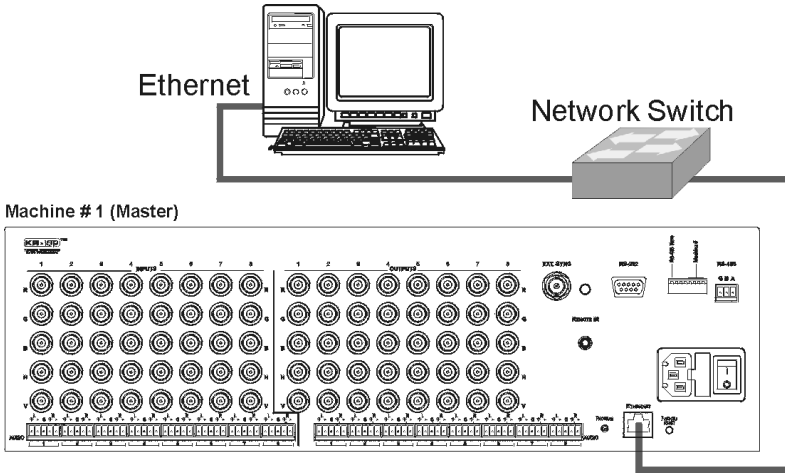

Figure 23: Controlling the VP-88K via Ethernet
- Via a network switch (as shown in Figure 23)